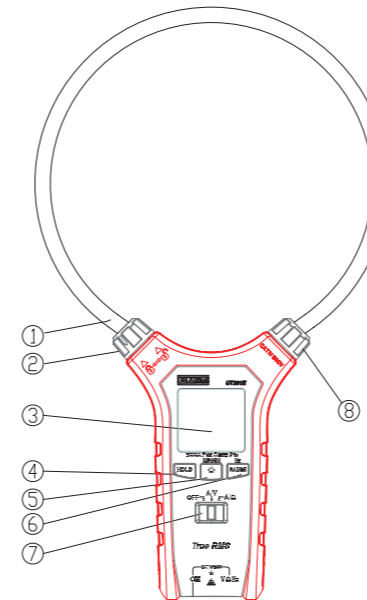

Figure 1
V. Exterior Structure and Printing Symbols (See Figure 1)